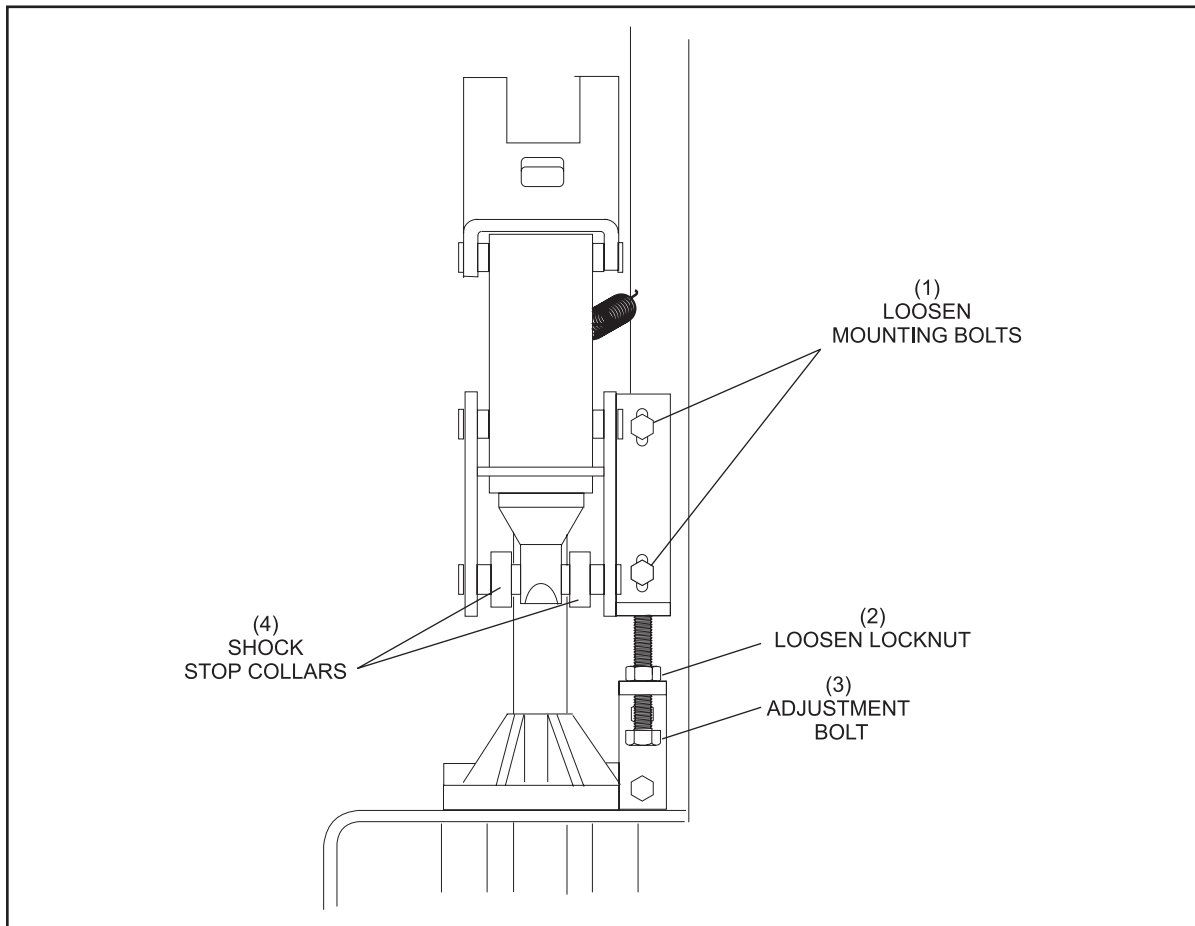

Figure 5-42. Adjusting Stroke Limiter Mounting Bracket.
(1) PIN HOLDER
(2) DETECTOR PLATE
4. If an adjustment is required, raise the table off the stroke limiter. Loosen the locknuts on the stroke limiter mounting bracket's vertical bolt and loosen the two mounting bolts illustrated in *Figure 5-42*. Lower or raise the stroke limiter as needed. Repeat steps 1 - 4 until the 3 - 5 mm clearance is obtained.